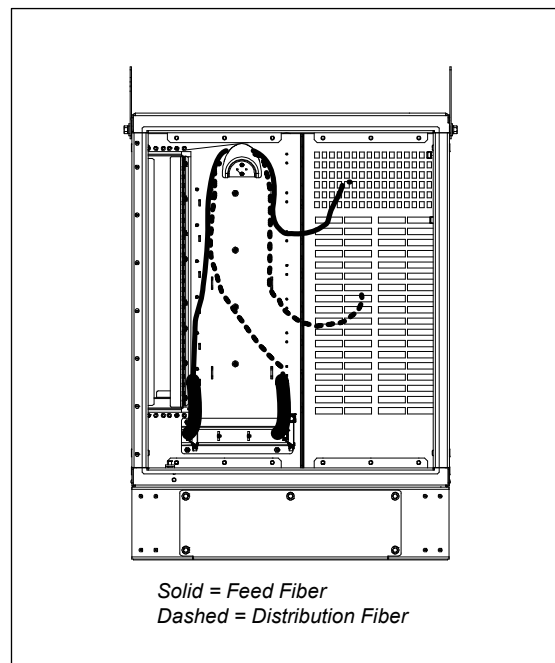

Figure 11 Feed and Distribution Routing, Single Fiber Shown
5. Route feed and distribution buffer tubes around the inside of the OHC, using the tie-down points to secure the buffer tube in place. Route the buffer tubes around the fiber management bracket and around to the feed and distribution adapter fields. Observe the proper bending radius for all buffer tubes. (Figure 11).
6. Feed Fibers: connect fiber fanouts to the input ports for the splitters. Observe the proper bending radius for all fanouts. Route the fiber fanouts, using the fiber management panels to the left of the splitter inputs (Figure 11).
7. Distribution Fibers: connect fiber fanouts to the output ports from the splitters. Observe the proper bending radius for all fanouts. Route the fiber fanouts, using the fiber management panels to the left of the distribution ports (Figure 11).